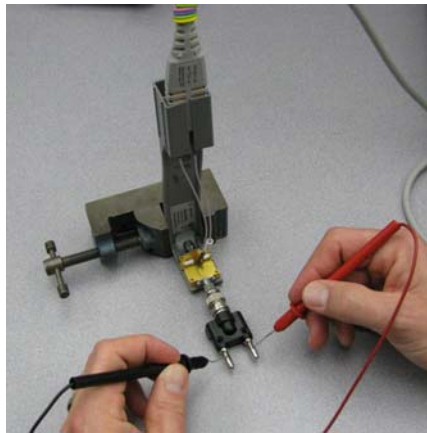

Figure 62 Measuring the differential input resistance of a ZIF or solder-in probe head
Figure 62 shows the correct setup for measuring the differential input resistance for ZIF probe heads or the solder-in probe head.
- 1 Connect the BNC to SMA adapter and BNC to Banana Plug adapters as shown in Figure 62.
- 4 Connect the ZIF or solder-in probe head to the probe amp and insert it into the PV fixture as shown Figure 62.
- 6 As shown in Figure 62, measure the DC input resistance between the banana plugs. Since one tip wire is connected to the signal line and the other tip is connected to the PV fixture ground, this is a measurement of the differential input resistance. It should be 100 kOhms +/- 2% (98 to 102 kOhms).